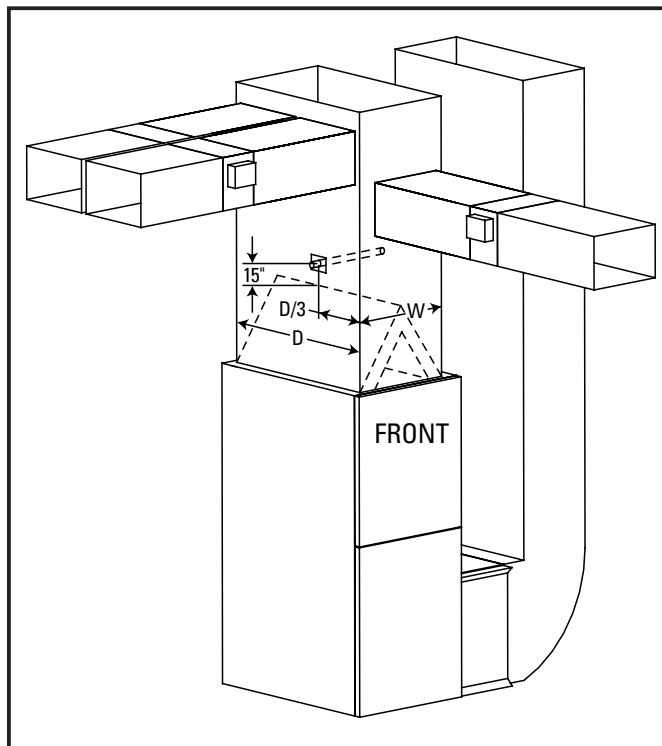

FIGURE 3 – DISCHARGE AIR SENSOR LOCATION
- Be sure that the tip of the sensor is located at least 15 inches from the top of the indoor coil if using a furnace, or at least 15 inches from the top of the electric heat section if using a coil blower. Mount the sensor in the discharge plenum, $1/3$ of the depth ($D/3$) of the plenum (D) from the front (the front is the side with the furnace or CB access doors), and centered side to side. Move the adjustable bracket along the length of the discharge air sensor to achieve proper sensor tip location (tip of sensor to be located at $W \div 2$). The sensor can be mounted from any side of the plenum, as long as the tip of the sensor is in the correct position. See **Figure 3**.